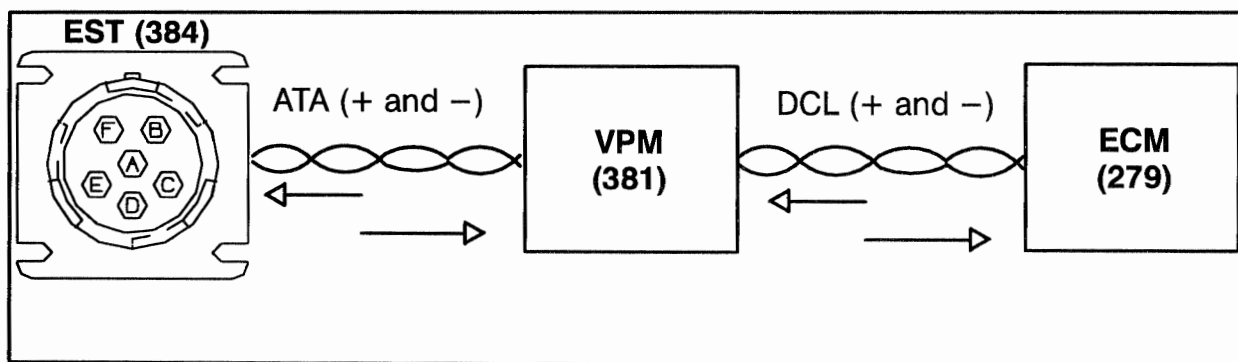

Figure 3.5-4. – ATA and DCL Communication
The Navistar engine control system includes the Electronic Control Module (ECM), Vehicle Personality Module (VPM), and Injector Driver Module (IDM). Refer to **Figure 3.5-4.** for the following discussion.
The engine control system "communicates" with the Electronic Service Tool through connector (384) as shown in **Figure 3.5-4.** The EST communicates with the VPM using the American Trucking Association (ATA) data link lines⁽¹⁾.
EST connector (384) has six pins, labeled A through F, **Figure 3.5-4.** that provide the following:
- B. Connector (384) terminal A is connected by circuit 98B(+) to the positive RED ATA bus and EST connector (384) terminal B is connected by circuit 98D(-) to the negative BLUE (428) bus. These two connections allow communication with all components connected to the data link at these same two busses.